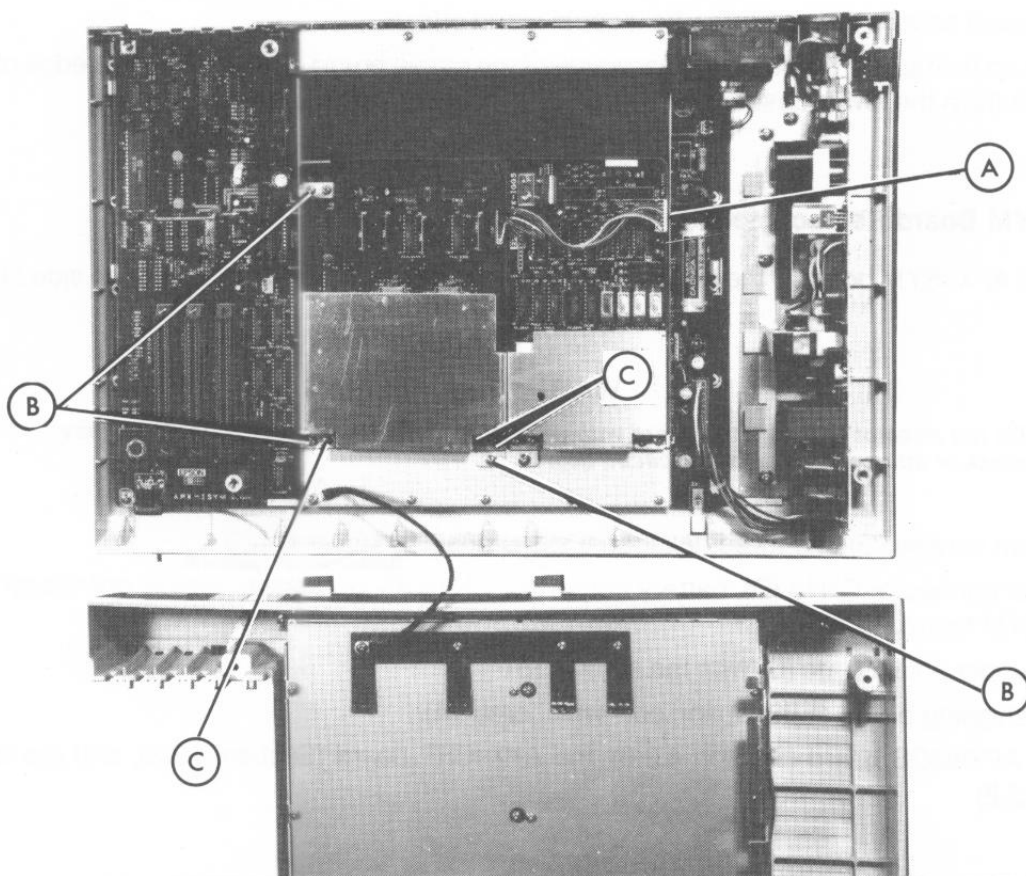

FIGURE 4-4. APX-ICRT BOARD REMOVAL/REPLACEMENT
4.2.7 APX-ICRT Board Removal (Figure 4-4)
4.2.8 APX-ICRT Board Replacement (Figure 4-4)